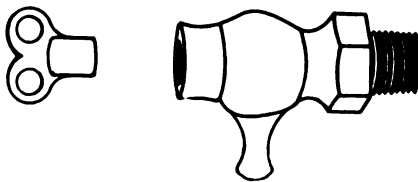

Fig. 95.—Hot Water Key Air Valve.
A. A positive air valve frequently called a compression valve, having a lock and shield and which is operated with a key, is regularly used on a hot water system when air valves are required. Fig. 95 shows the ordinary shape of this valve.